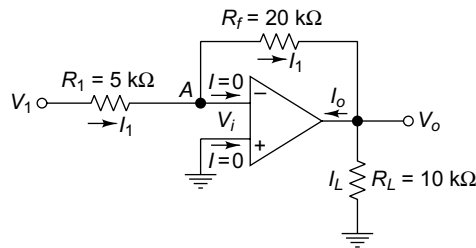

Fig. 5.3 Circuit of Ex. 5.2
5.2 An inverting amplifier is shown in Fig. 5.3. Determine (a) I_1 (b) V_o (c) I_L (d) I_o . Assume input voltage V_1 is equal to 1 V .